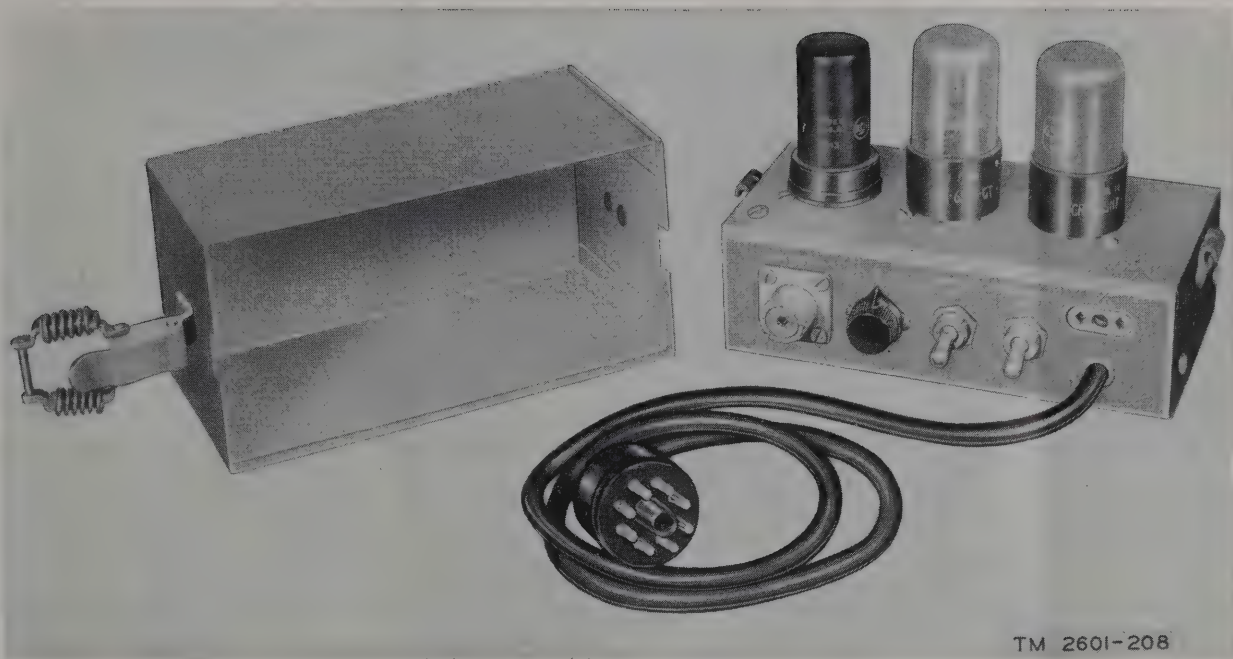

Figure 39. Late model of Test Oscillator TS-32C/TRC-1.
- (1) Early models of Test Oscillator TS-32C/TRC-1 are the same as the B model.
- (2) Late models of Test Oscillator TS-32C/TRC-1 (fig. 39) have added